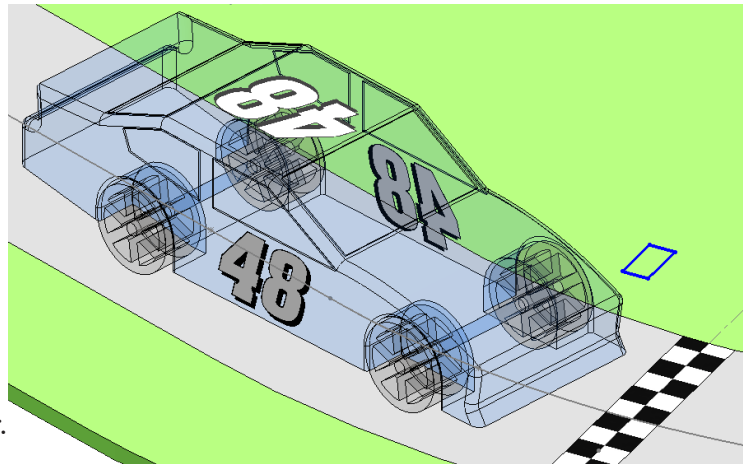

Fig. 5
Step 6. Sketch a rectangle on infield of Track, **Fig. 5**.
Step 7. Click **Smart Dimension**  (S) on the Sketch toolbar.